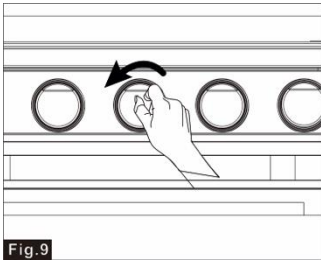

Fig.9
3. Turn the appropriate burner knob counterclockwise to LIGHT position. (Fig. 9)
3. Rotate the appropriate burner knob counterclockwise to LIGHT position. (Fig. 9)